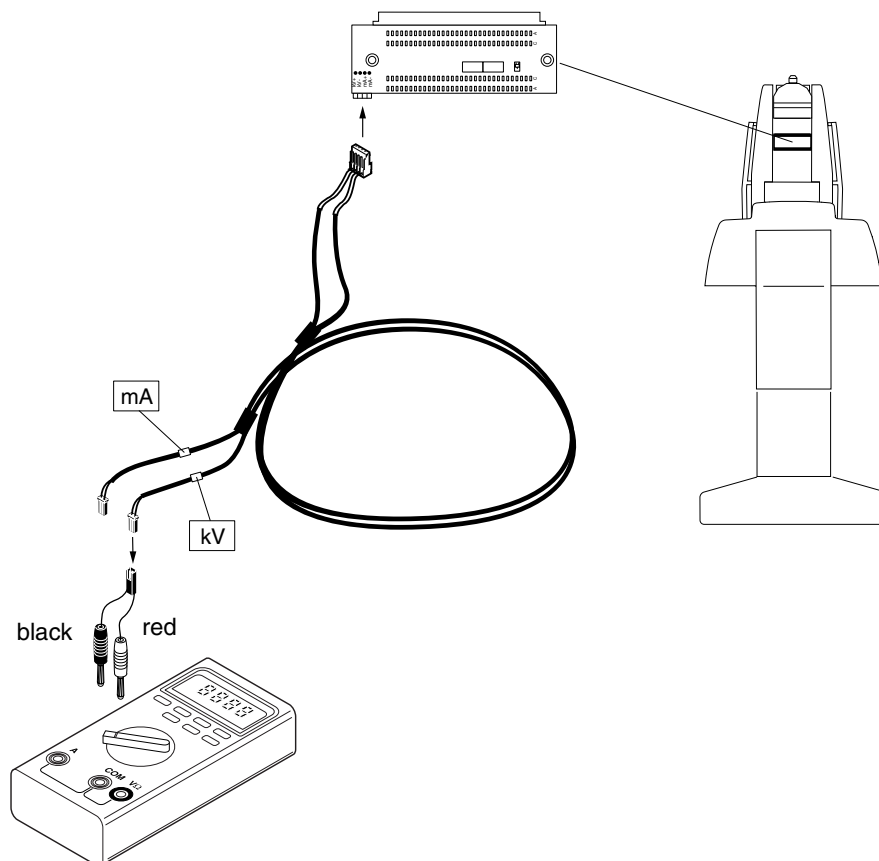

Figure E.1
- c) Connect the Feedback measuring kV cable to the connector P3 on the 109-10-15 PCB. The board is located in the rear end of the Power supply, see Fig. E.1.
- Connect the Feedback measuring cable to the connector P3 on the 109-10-15 PCB. The board is located in the rear end of the Power supply, see Fig. E.1.
- Switch the multimeter to the resistance range and record the mA feedback line resistance value (R) (nominal 34 $\Omega$ ).
- Take an exposure and record the multimeter voltage value (U) during exposure. Record also the time reading on the display of MDH.
- The right current (I) value is calculated from the measured voltage value by dividing it by the measured resistance value, e.g.